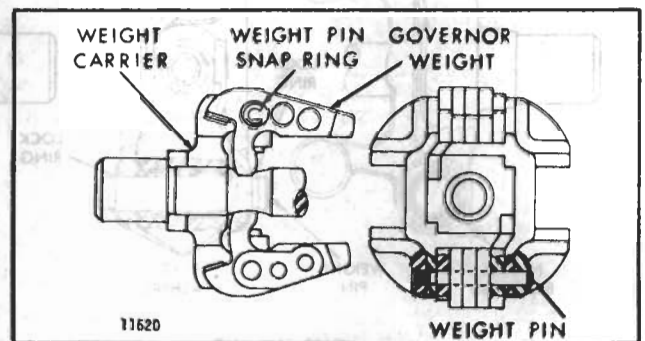

Fig. 9 - Cross Section of Governor Weight Assembly (Non-Turbocharged Engines)
5. Refer to Fig. 9 and remove the governor weights from the carrier and shaft assembly as follows (non-turbocharged engines):